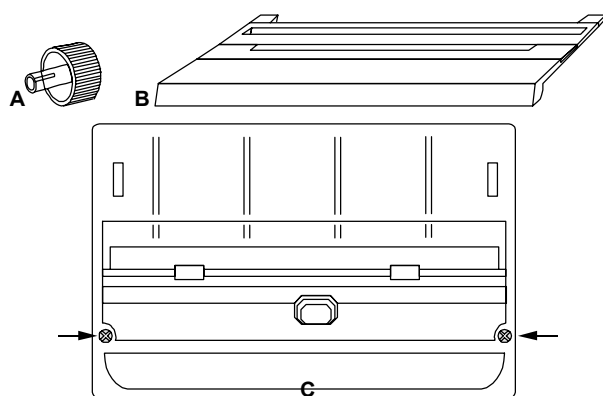

Figure 7: A) Platen knob B) Access cover C) Overhead view of printer, showing the screws that hold the top cover in place
2. Remove the access cover (See Figure 7).
3. Referring to Figure 7, remove the top cover, as follows:
4. Lift off the top cover. The serial card can be seen behind the platen, on the left (See Figure 7).